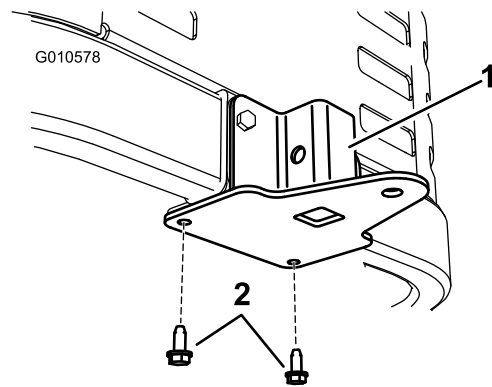

Figure 12
2. Secure the support bracket to the bottom of the machine frame from below using two self tapping screws (5/16 x 3/4 inch) as shown in Figure 12.